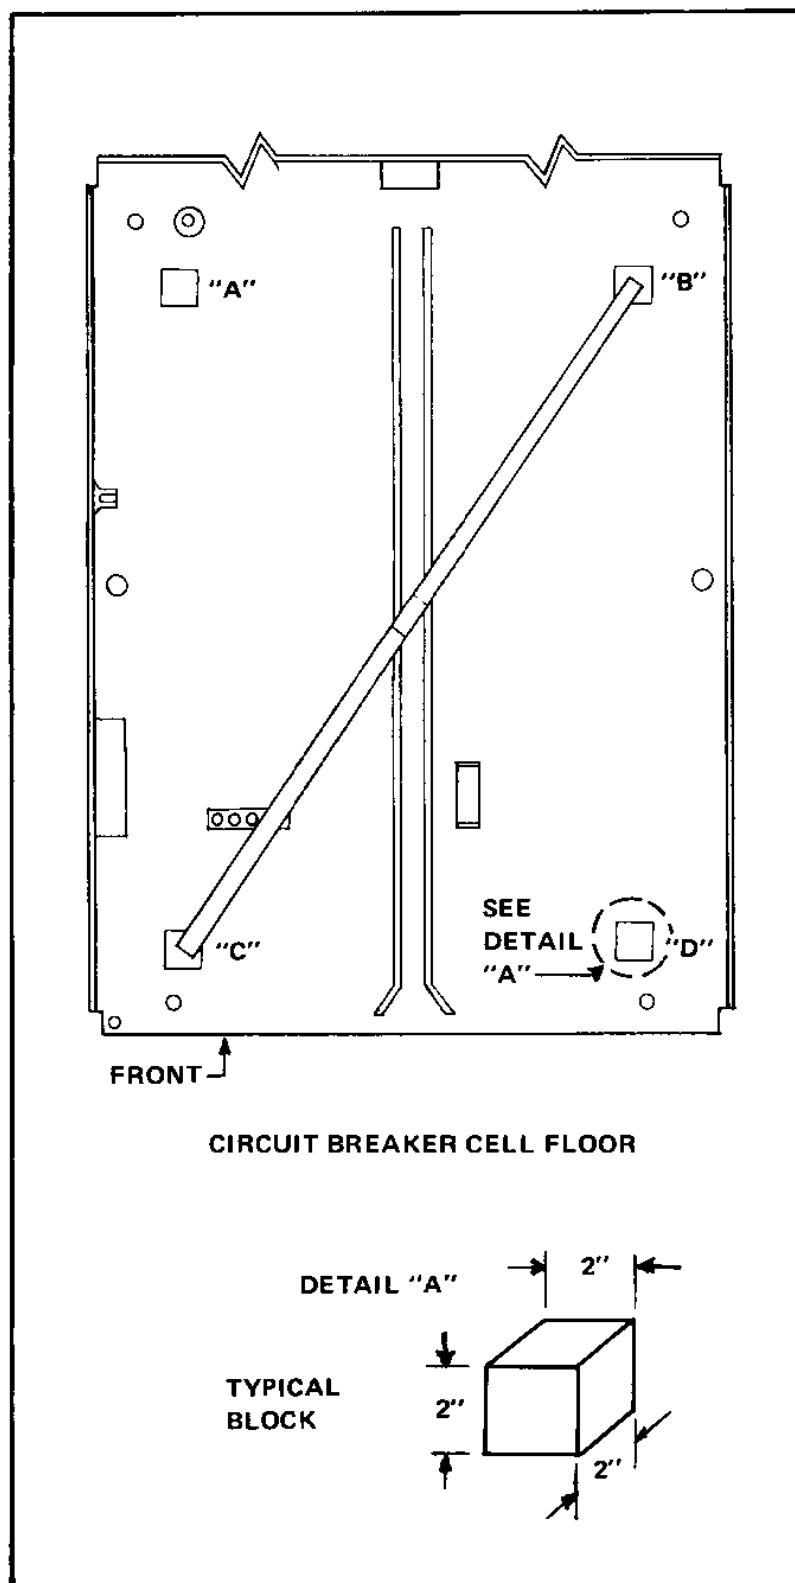

Figure 3-7.
6. To check for levelness of the switchgear place 4 - 2" X 2" spacers on the floor of the cubicle as shown in Fig. 3-7. All spacers must be square. Place a piece of wood 2" X 4" on the spacers as shown in Fig. 3-7. This 2" X 4" must have square sides. Check for levelness by placing a 2' level on this 2" X 4". Check at points A to B, B to C, C to D, D to A, B to D and A to C. Refer to Figure 3-7.